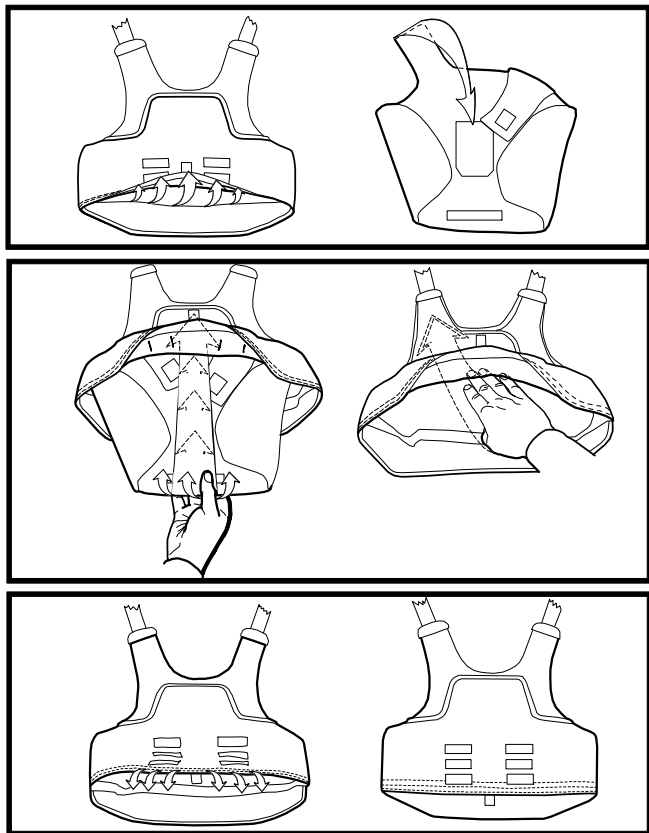

Figure 19. Installing Soft Ballistic Inserts.
- a. Lay the carrier on a flat surface with inner side (or side with label) facing up (Figure 19).
On the IOTV Gen II, the cable release routing channel is sewn as one piece throughout the front carrier. The second step in Figure 19 is only required for the IOTV.)